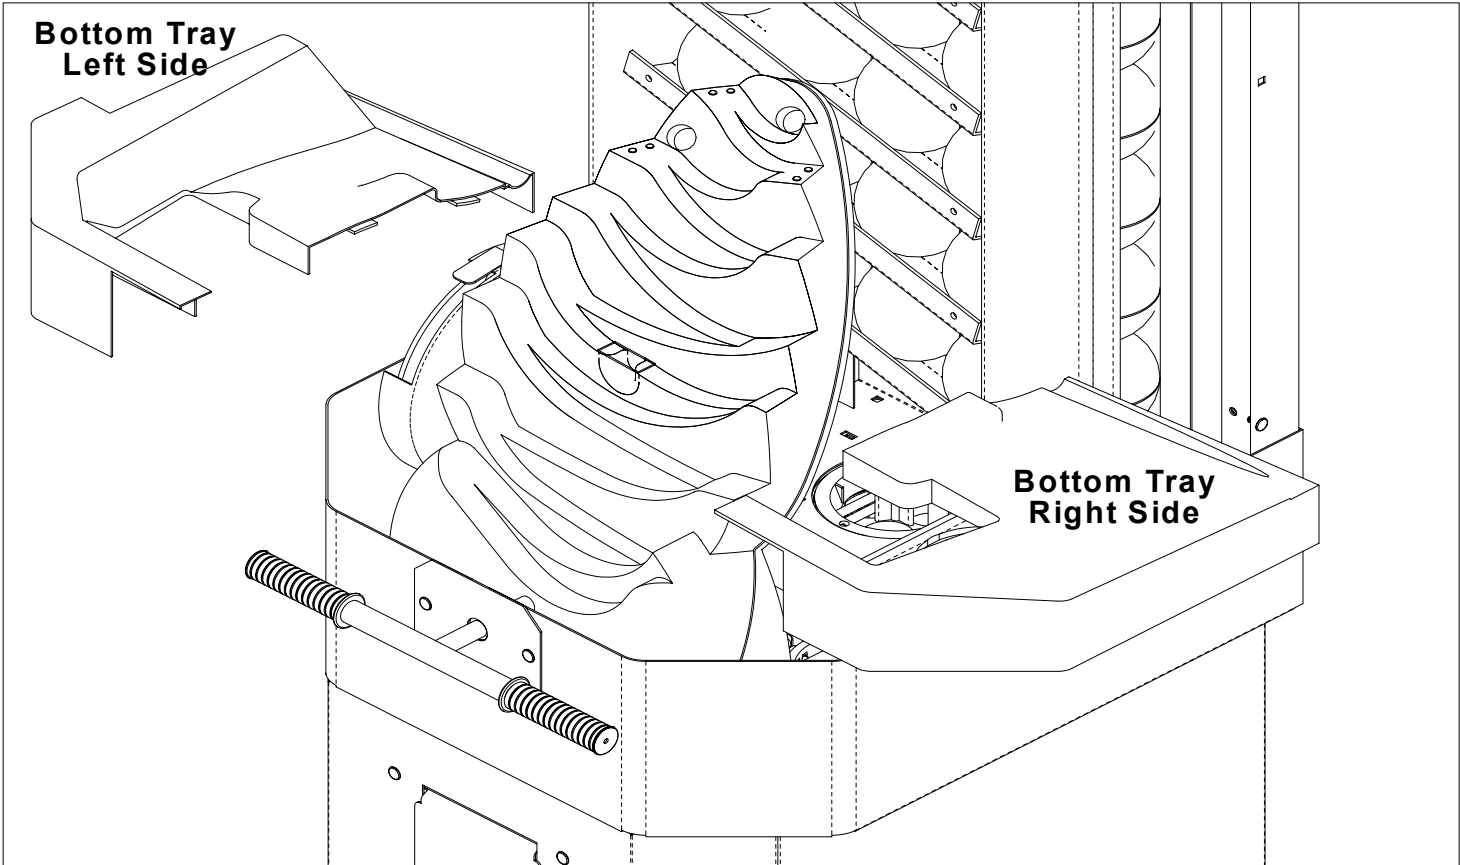

Figure 14
3. Lift bottom tray out of unit one half at a time (see figure 14). Note: left side tray has two sets of wires connecting to micro-switches at the front and rear of the tray. Disconnect wires from micro-switches taking note which pins they are connected to.